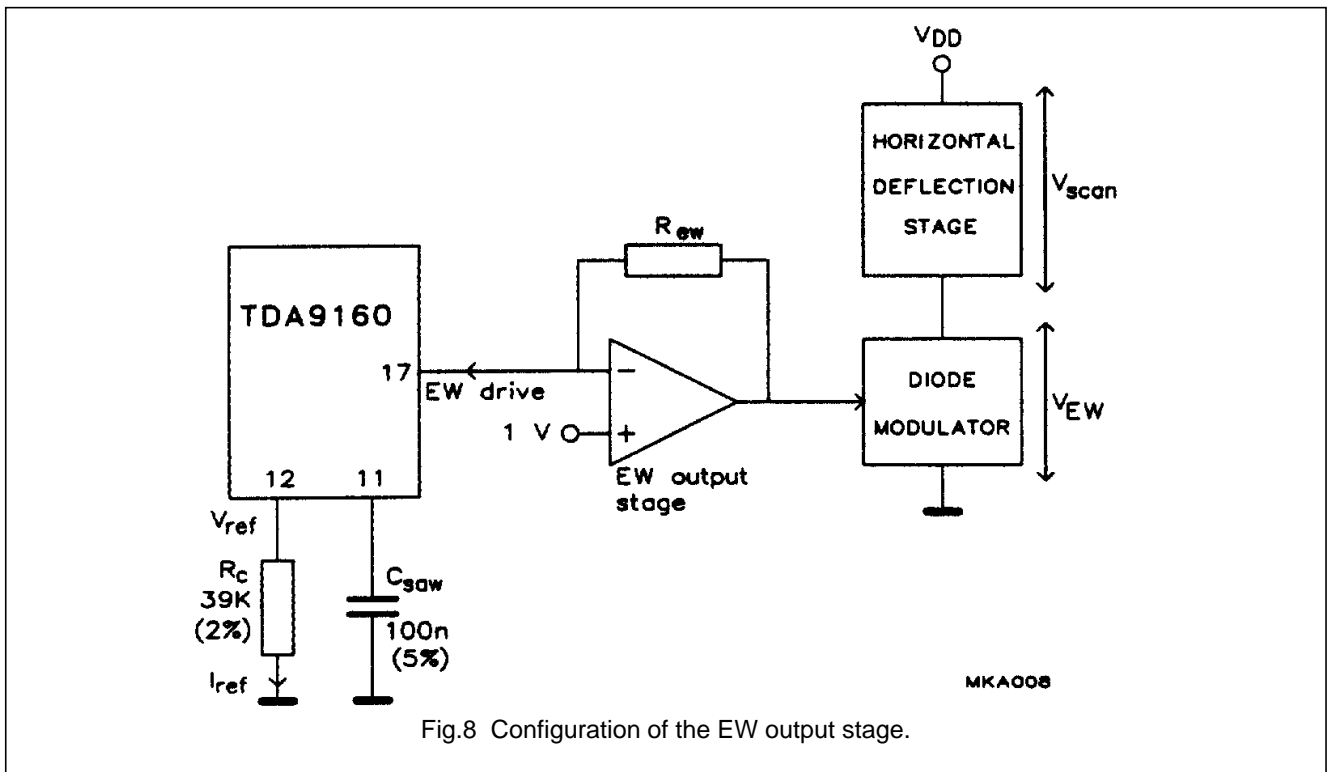

Fig.8 Configuration of the EW output stage.
In order to obtain the correct tracking of the vertical and horizontal EHT correction, the EW output stage should be configured as illustrated in figure 8.
**Note to Fig.8**
The value of the vertical slope determines the charge current of the vertical sawtooth capacitor ( $C_{\text{saw}}$  as shown in Fig.8) and thus the amplitude of the sawtooth voltage at pin 11. This voltage serves as the input voltage for the geometry processor. Consequently the setting of the vertical slope will affect both the vertical and EW output currents.